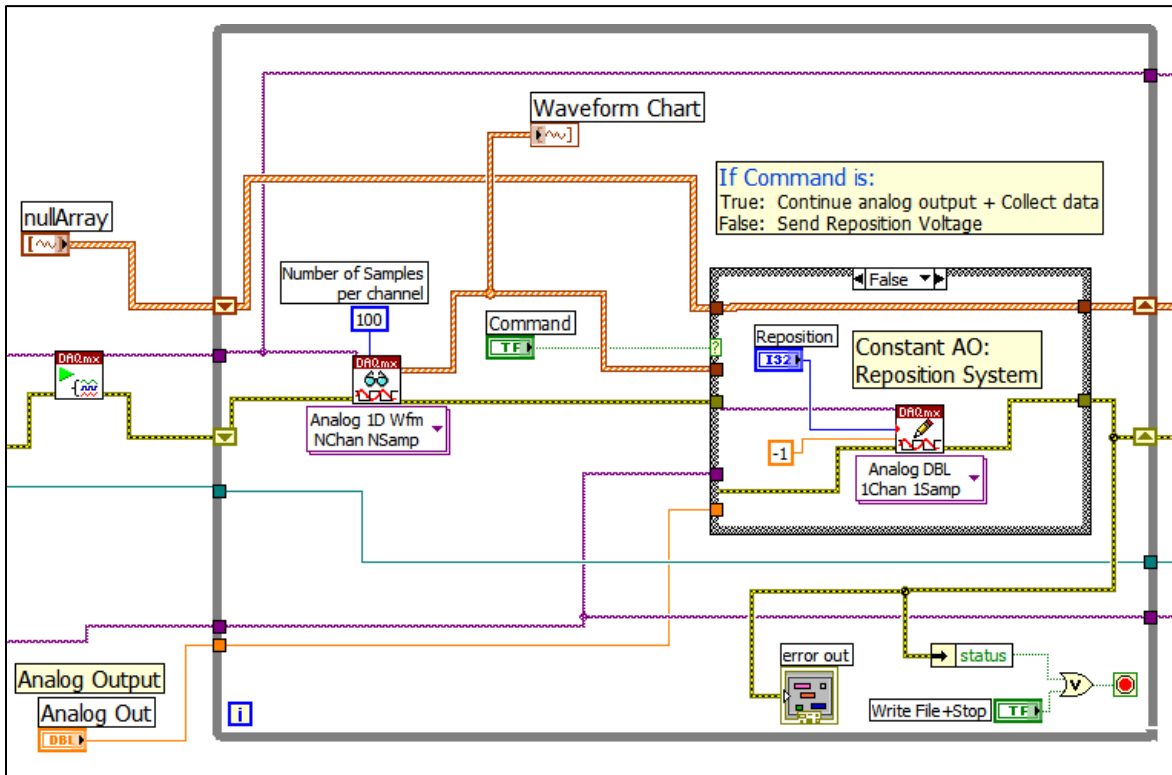

Fig. 4. The Data Acquisition Segment with the Command Button OFF
- As execution enters this loop, the *Command* button should be *OFF*, so the *reposition* voltage is sent to the analog output channel and data is collected and shown on the *Waveform Chart* on the front panel. The block diagram of this segment with the Command button OFF is shown in Fig 4.